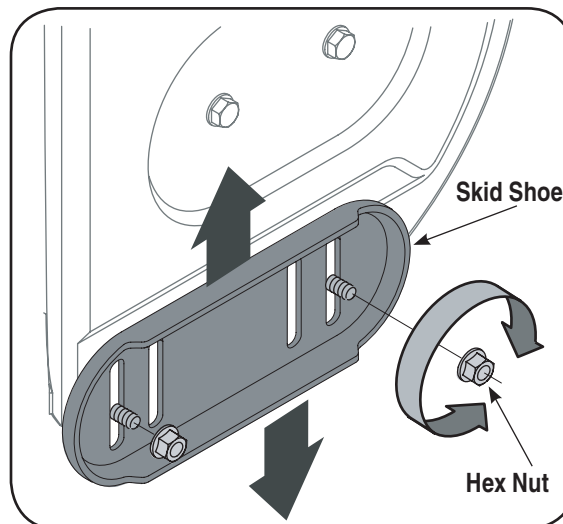

Figure 11-3
1. Loosen, but do NOT remove, the three hex nuts which fasten the skid shoe to the auger housing. See Figure 11-3.